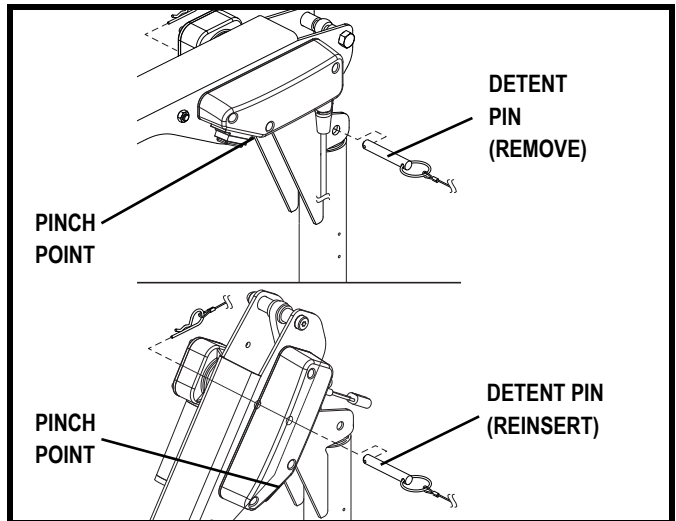

Figure 4. Securing The Boom Arm
1. Remove the detent pin located between the boom arm and upper post. Guide the boom arm downward until it is parallel with the upper post. See **figure 4**.
2. Reinsert the detent pin into the top of the upper post to secure the boom arm in place. See **figure 4**.